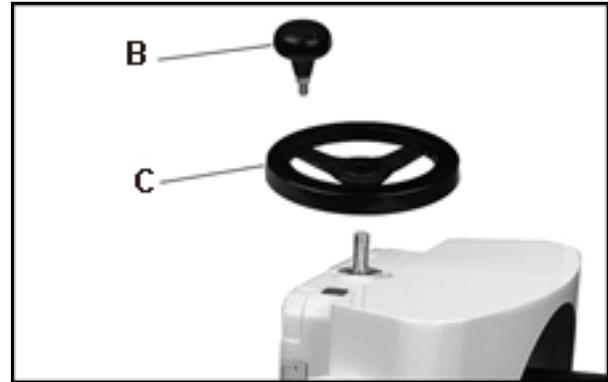

Figure 5
4. Attach large handwheel (C, Figure 5) to height
5. Install handle (B, Figure 5) into threaded hole and tighten nut against handwheel.
The drum height and depth of cut are controlled by the height adjustment handle (see Figure 5). Rotating the handle counterclockwise lowers the drum, clockwise raises it. One revolution of the handle will move the drum 1.27 mm.